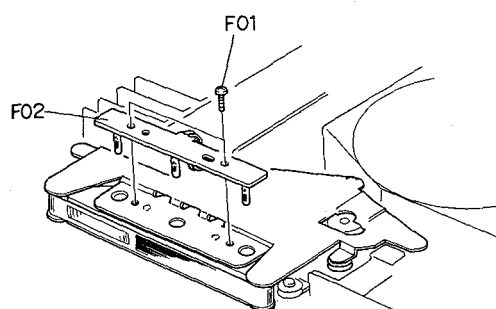

Fig. 3.4
Refer to Fig. 3.4. Remove Front Panel Ass'y referring to items 3.1 – 3.3.